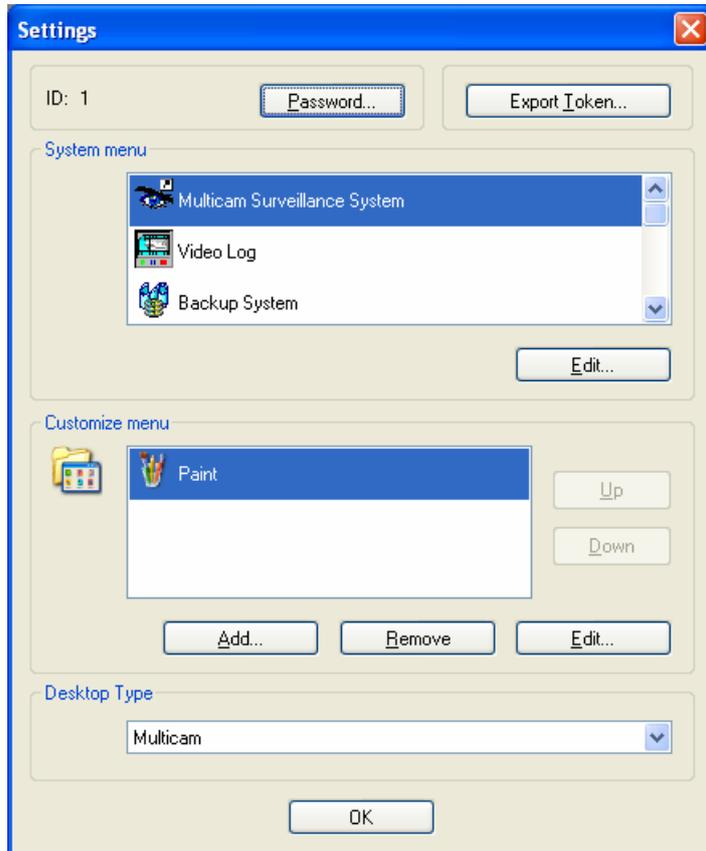

Figure 10-19
1. Click the **Export Token** button (Figure 10-19) to display the following dialog box.
7. When the Settings window (Figure 10-19) appears, select **Windows** in the Desktop Type field, and then exit from the window.